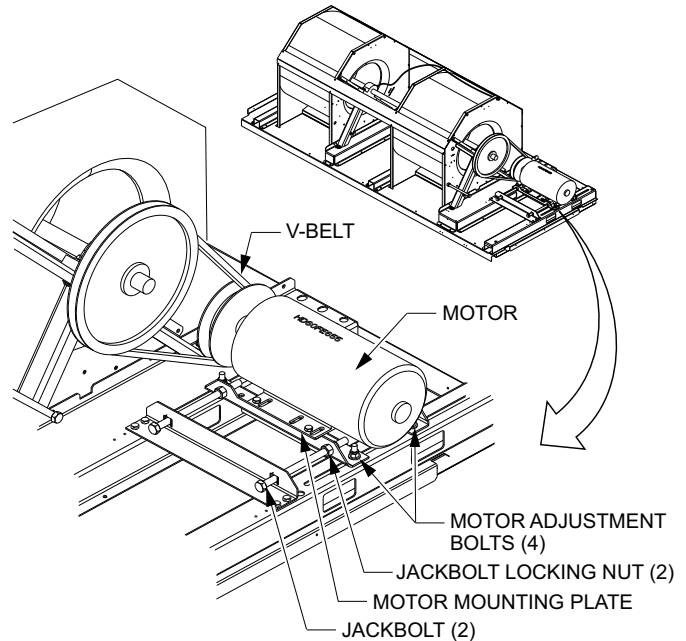

Fig. 5 — Belt Drive Motor Mounting
The supply fan system consists of two forward-curved centrifugal blower wheels mounted on a solid blower shaft that is supported by two greasable pillow block concentric bearings. A fixed-pitch driven fan pulley is attached to the fan shaft and an adjustable-pitch driver pulley is mounted on the motor. The pulleys are connected using a V-belt. (See Fig. 5.)
Use the following steps to adjust the V-belt tension. See Fig. 5.
- Loosen (turn counterclockwise) the motor mounting plate front bolts and rear bolts. See Fig. 5.